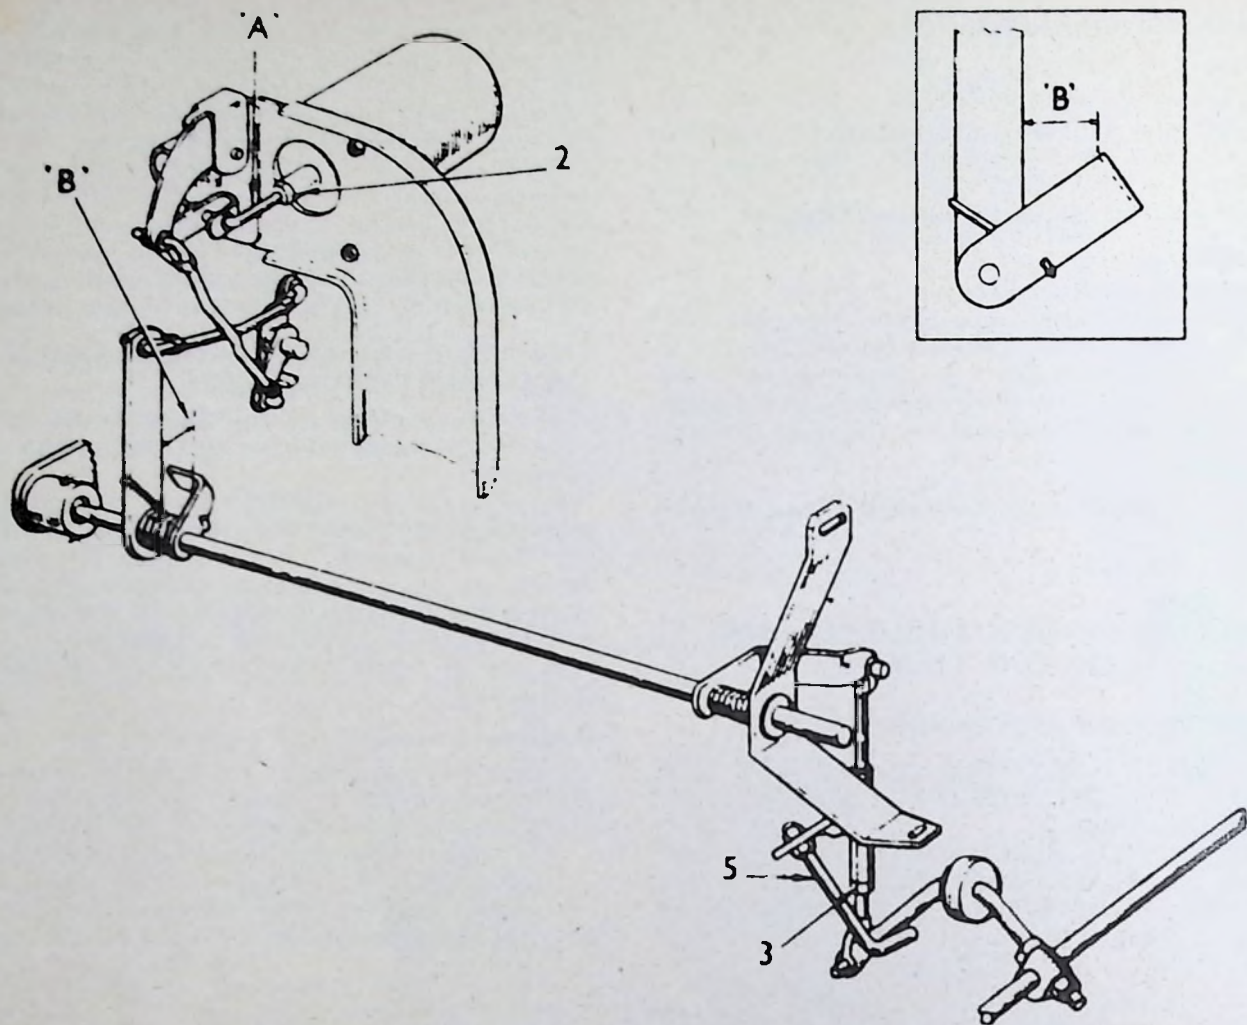

FIG. 34A.—Gazelle Throttle Linkage (for governor linkage see Fig. 34).
- (d) Carefully check the entire linkage for freedom of operation. Depress accelerator pedal fully and check that full throttle is given at carburettor at the same time as the pedal touches the floor coverings. It is essential to ensure that full throttle is achieved without any over-strain on the linkage. Lengthen or shorten rod (3) as necessary to achieve this.
- (e) Release accelerator pedal and check that, after carburettor throttle has closed, rod (3) moves down approximately a further $\frac{3}{8}$ ". Adjust stop bracket (5) if necessary to give this approximate lost motion. On twin carburettor model this produces a clearance of $\frac{3}{16}$ " at point "B", Figure 34A.
- (f) With accelerator pedal fully released and governor arm set to "closed" on governor stop, adjust length of rod (1) until it is $\frac{3}{32}$ " [2.3 mm. (half a hole)] short of location in relay lever, when the locknut has been tightened. This ensures that the governor arm is pulled back on its stop when the accelerator pedal is released.